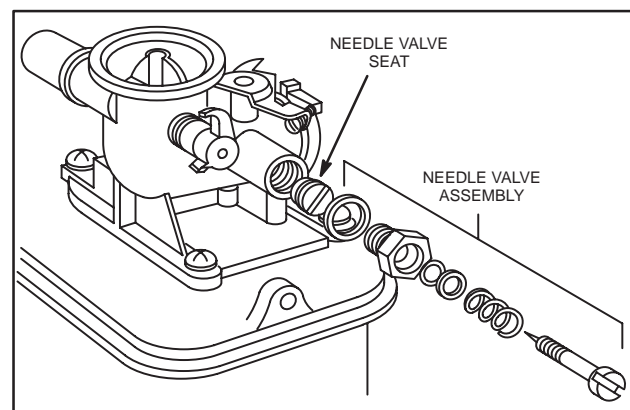

Fig. 167 – NEEDLE VALVE ASSEMBLY, SCREW-IN TYPE
3. Install needle valve assembly, Fig. 167.